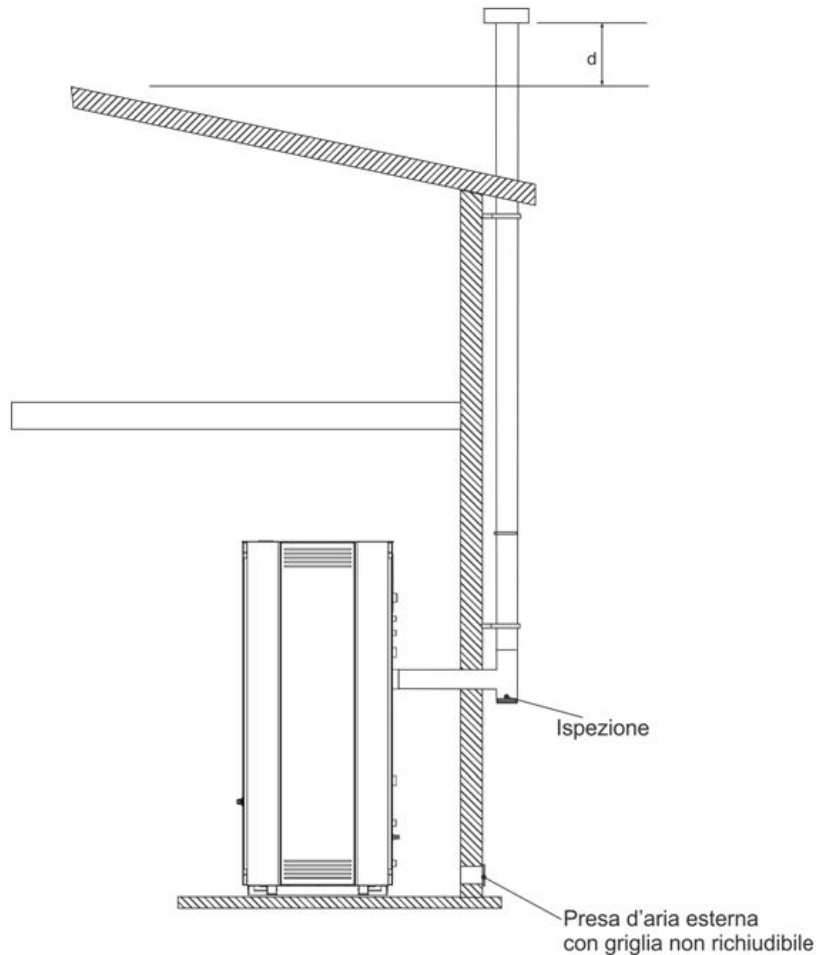

Fig. 13
- For the ducts, only insulated tubes (double wall) in stainless steel, secured to the building (*fig.13*) must be used.
- *Fig. 13* shows the solution to be utilised should you wish to use an external fume ducts.